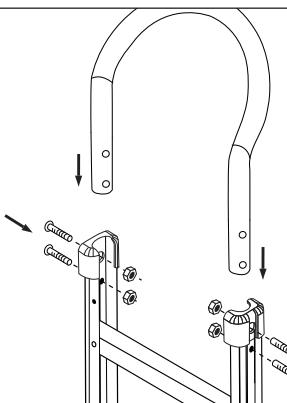

Figure 1
1. Slide handle into the top rails of frame. Align holes in handle and frame. Insert four 6 mm bolts through the frame and handle and secure with locknuts. (See Figure 1)